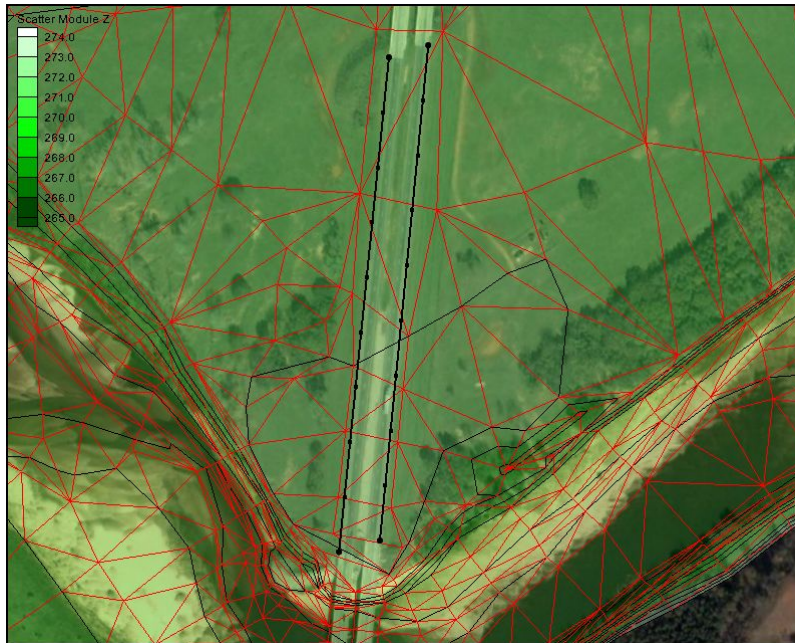

Figure 14 TIN with additional inserted points.
5. In the redistribution dialog, make sure *Specified Spacing* is the redistribution option and enter a value of 50 ft. This is the approximate spacing of the vertices in the TIN. It is useful to be consistent with spacing when possible and it is not excessive. The resulting arcs, with their distributed vertices should appear as shown in Figure 14. Click *OK*.